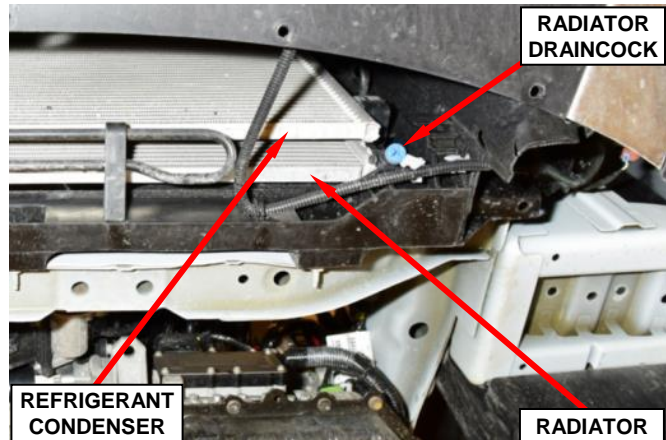

Figure 70 – Radiator Draincock
21. Position a container under the draincock located at the lower left side of the radiator (Figure 70).